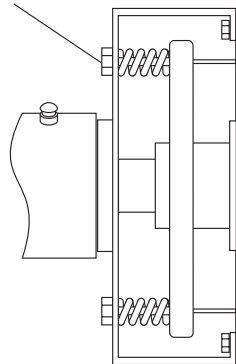

Figure 43. Drum Seal Adjusting Nuts
2. As the seals naturally wear, material will seep from the drum head. Tighten the adjusting nuts (Figure 43) equally until a slight pressure is felt. The seals are now tight. This procedure should be done periodically as the seals leak.